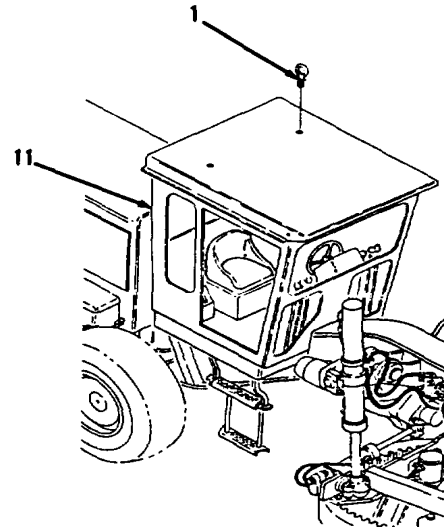

Figure 9-1.
1. Install two eyebolts (1) in top of ROPS (11, Figure 9-1).
11. Remove two eyebolts (1, Figure 9-1).